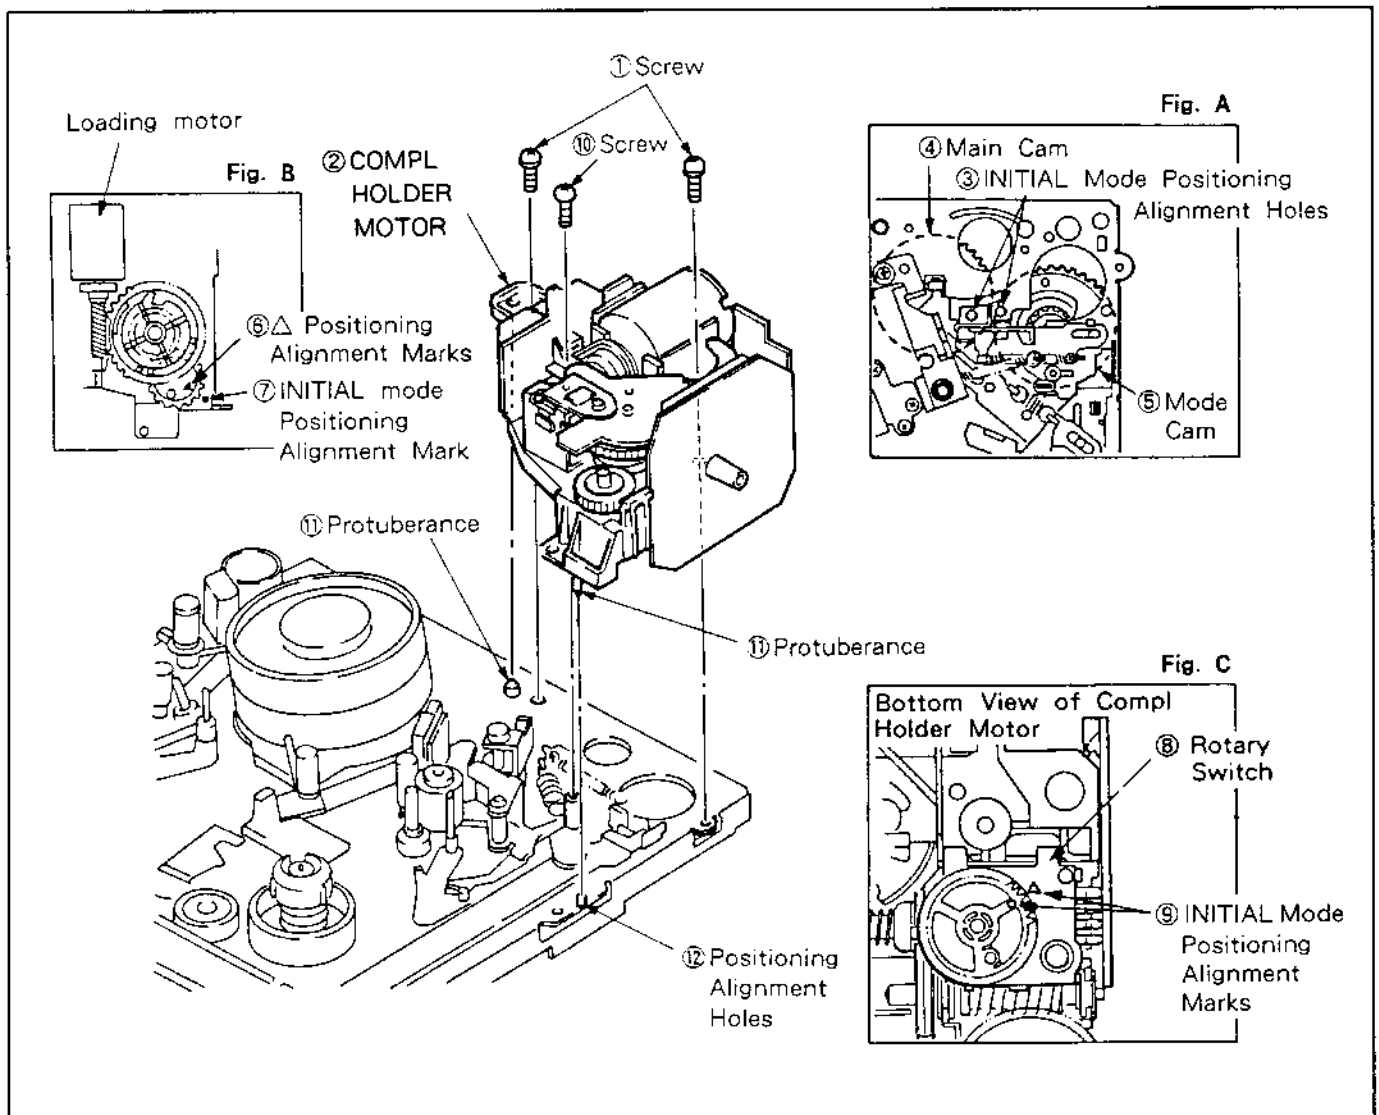

Fig. 2-3-1. Compl Holder Motor
- 3) Remove the two screws ① and the other one ⑩, then remove the COMPL HOLDER MOTOR ② (see Fig. 2-3-1.).
- 1) Set the mechanism chassis to the INITIAL mode. In this mode, look at the mechanism chassis INITIAL mode positioning alignment holes ③ just from above and align the MAIN CAM ④ and MODE CAM ⑤ INITIAL mode positioning alignment holes as shown in Fig. A.
- 2) Set the COMPL HOLDER MOTOR ② to the INITIAL mode with the mode selector (VHJ-0050). In this position, the FRONT LOADING GEAR Δ positioning alignment mark ⑥ is aligned with the MOTOR HOLDER INITIAL mode positioning alignment mark ⑦ (see Fig. B.).
- 3) Align the ROTARY SWITCH (mode detector switch) ⑧ with the INITIAL mode positioning alignment mark ⑨ (see Fig. C.).
- 4) Line up COMPL HOLDER MOTOR ② with PROTUBERANCE ⑪ and POSITIONING ALIGNMENT HOLE ⑫, and attach with two screws ① and one screw. (Refer to Fig. 2-3-1.).